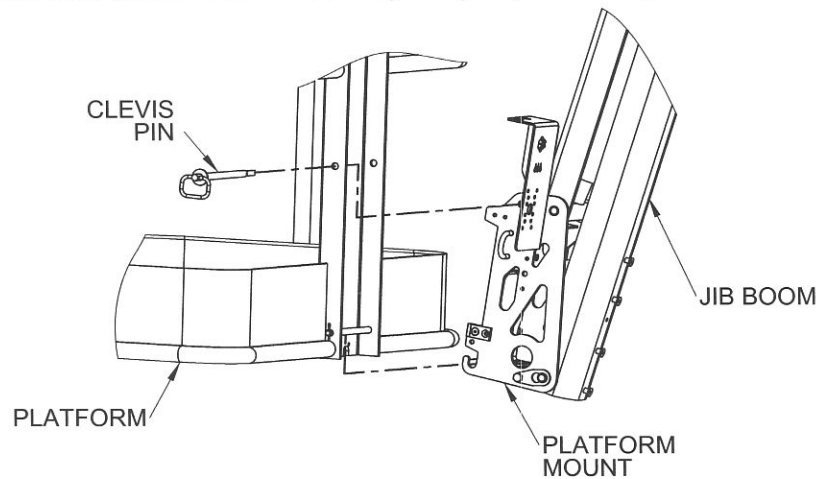

Figure 7-5. Platform Removal
- Remove the **CLEVIS PIN** holding the platform to the **PLATFORM MOUNT**. Refer to Figure 7-5.